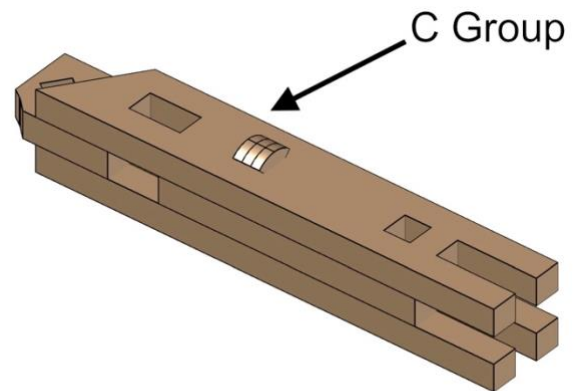

Fig. 36
- Fig. 36 shows the completed process.